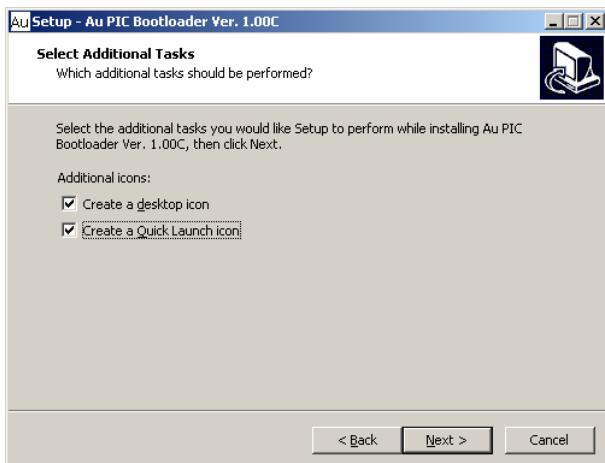

Figure C-6
- "Select Additional Task" window shows up, check both "create a desktop icon" and "Create a quick launch icon", and then click "next" to continue (Figure C-6).